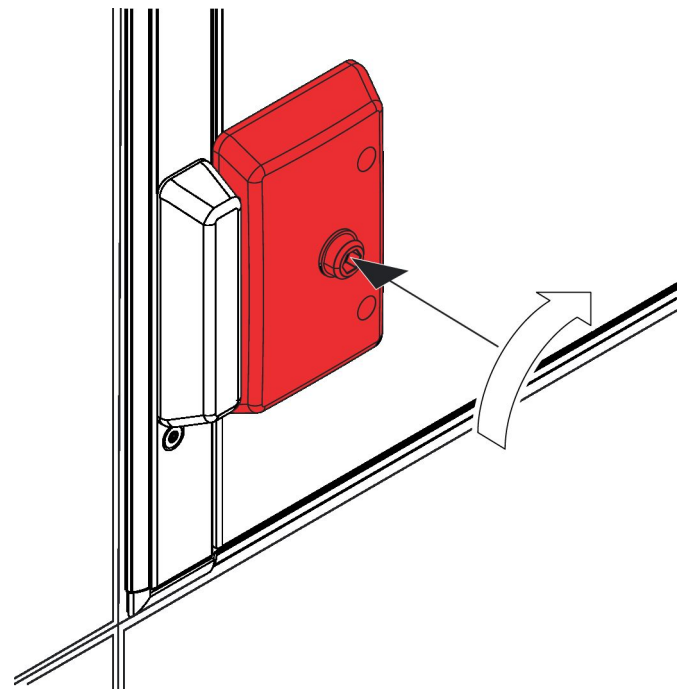

Fig. 16: Opening a lock with the special key (hazardous areas)
- ▶ Insert the TROX special key into the lock and turn it anti-clockwise as far as it will go (Fig. 16).